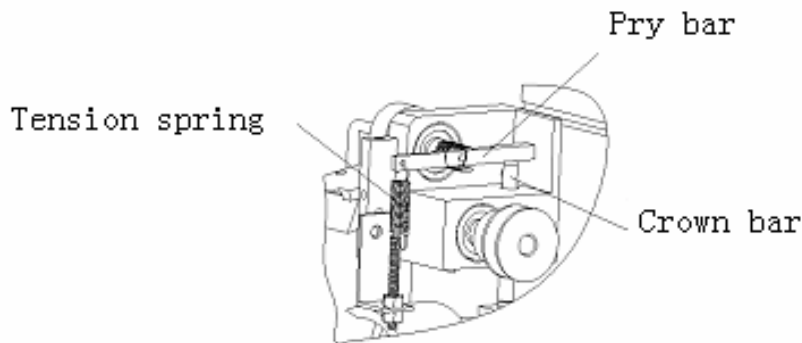

Fig5-3
- a. Tensioning force of pry bar is too large or too small: properly adjust the pressure of roller wheel (see Fig5-3)